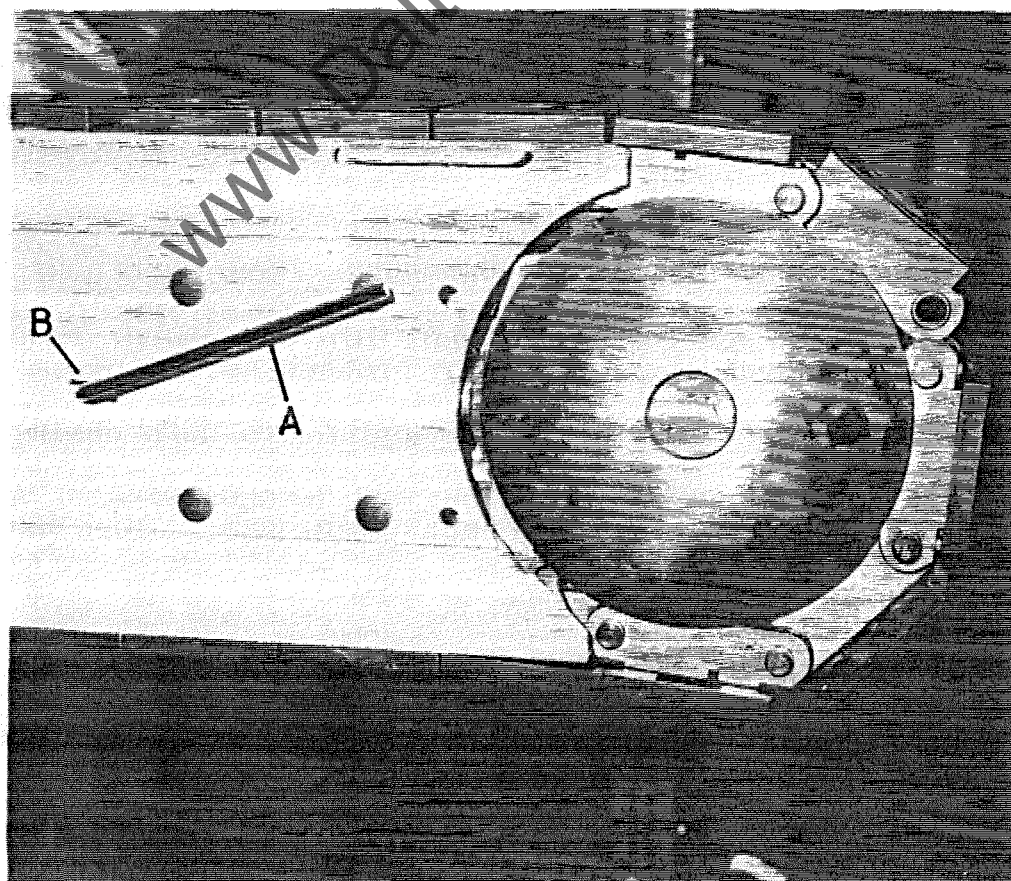

FIG. 8
- 1 Release 8mm allen screws with long arm hexagon wrench "A" FIG.8 (supplied), in either side of each chain beam. Turn cam "B" to release chain tension.